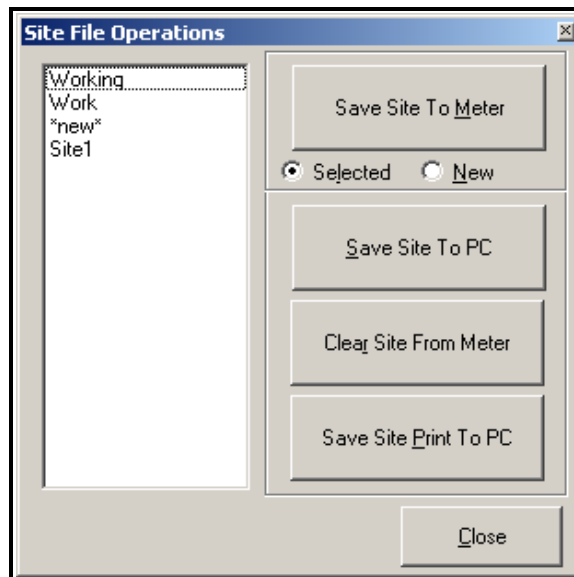

Figure 30: The *Site File Operations* Window
To access site files, click on the *Site Files* button in the *Properties* window. The *Site File Operations* window (shown in Figure 30) opens.
1. Highlight the desired site in the left pane. (See Figure 30 on page 100.)
1. Highlight the site in the left pane. (See Figure 30 on page 100.)